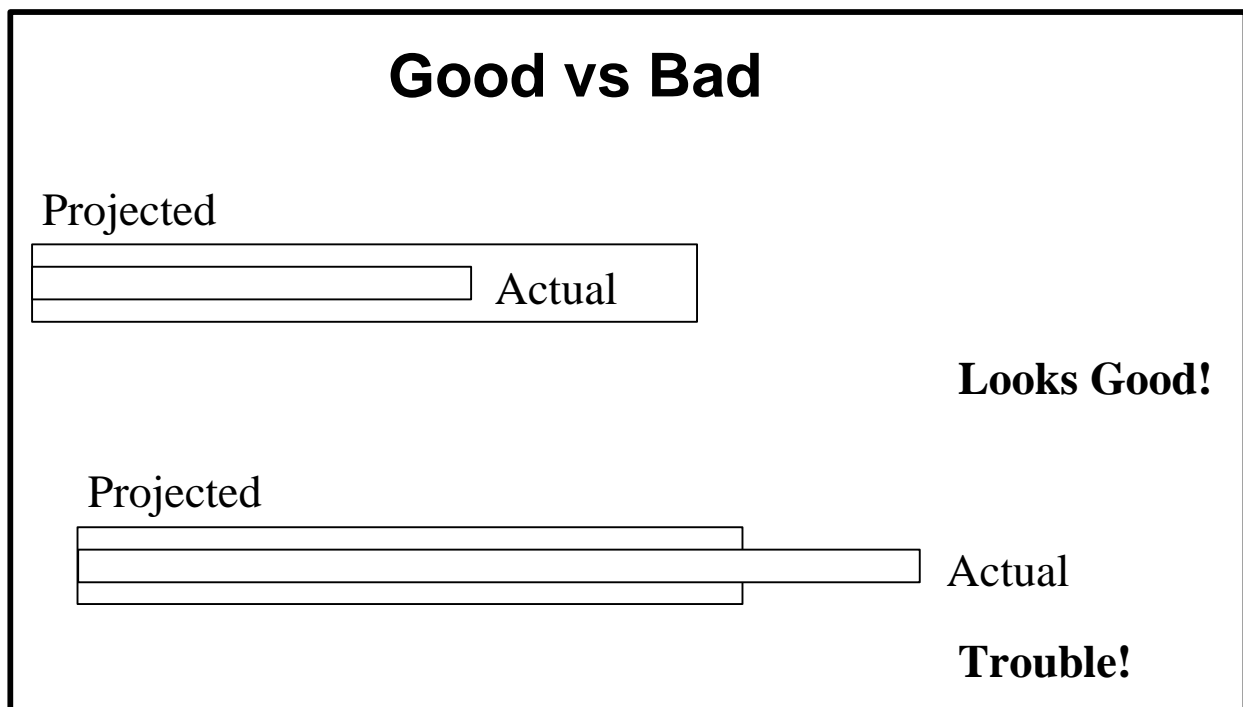

Figure 64. Evaluating Actual versus Projected Job Processing Time
- 2 Review the Control Region (left side of display) to identify the **Actual/Projected** legend for making comparisons in the View Region. (Refer to Figure 64.)